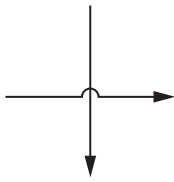

Figure 5.7 Inputs and outputs pass over or under one another.
- 4. Arrows representing inputs or outputs should pass over or under one another, rather than intersect (Figure 5.7).